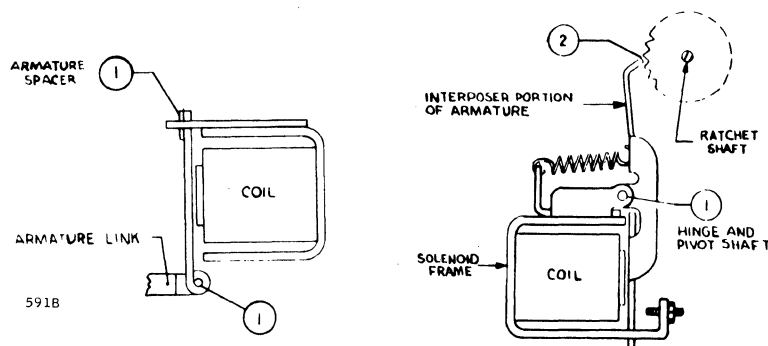

Figure 4-4. Armature, Solenoid, and Ratchet Lubrication Points
3. Solenoid Armatures, Feed Solenoid and Ratchet (figure 4-4)